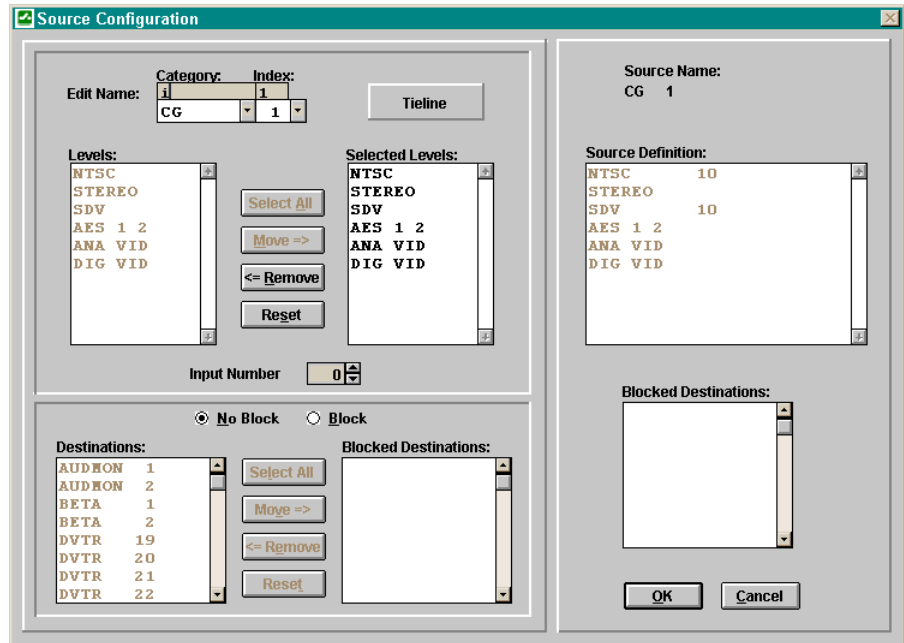

Figure 29 Source Configuration Window
1. Click the **Add** button in the SOURCE window to open the SOURCE CONFIGURATION window (Figure 29).
To modify an existing source, select the source to be changed and click on the **Edit** button. This will open the SOURCE CONFIGURATION window (Figure 29) where any desired changes may be made.
To create a source based on an existing one, select the existing source and click on the **Copy** button. This will open the SOURCE CONFIGURATION window (Figure 29). When this window opens, select a new source name, and change the displayed source information as required.